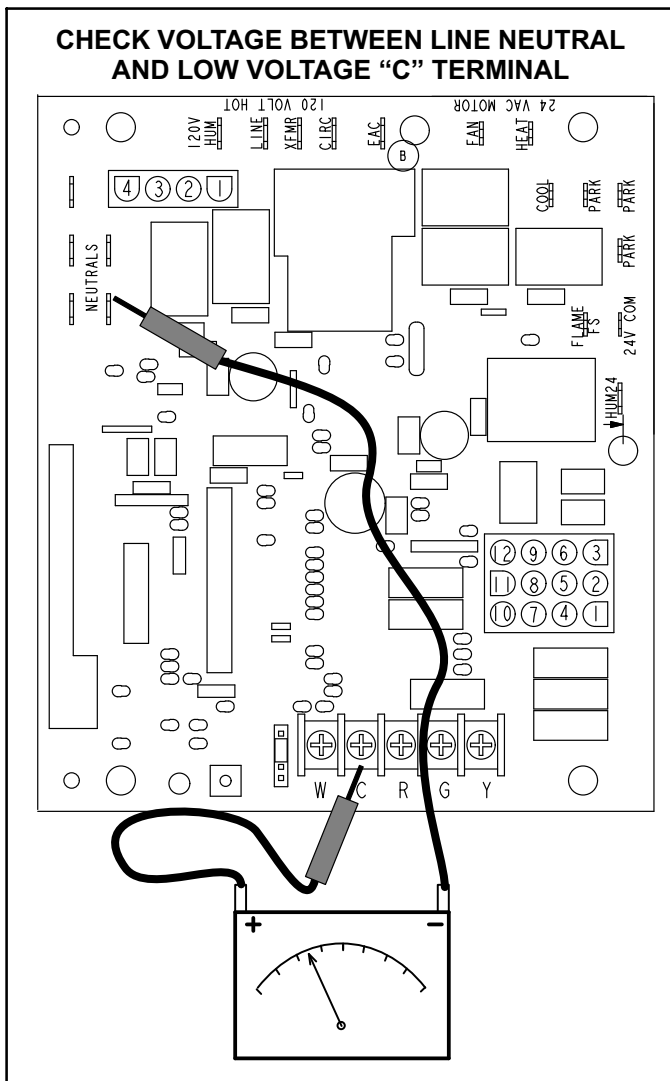

FIGURE 23
- 1 - Measure the AC voltage between Line Neutral (spade terminals) and "C" terminal (low voltage terminal block) on the integrated control. See figure 23. A wide variation in the voltage between Line Neutral and "C" as a function of load indicates a poor or partial ground. Compare the readings to the table below. If the readings exceed the maximum shown in table 16, make repairs before operating the furnace.
Note - Figure 23 and 24 are typical ignition control illustrations.